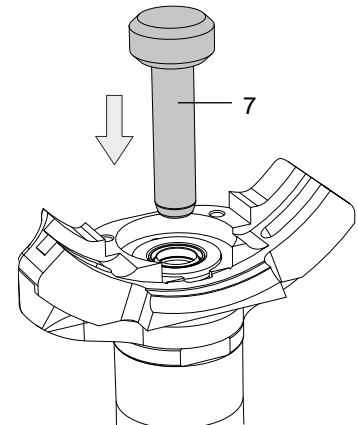

Fig. 8.4 – Inserting the sealing plug
- 6) Seal the resulting opening with the sealing plug (7), see Fig. 8.4.